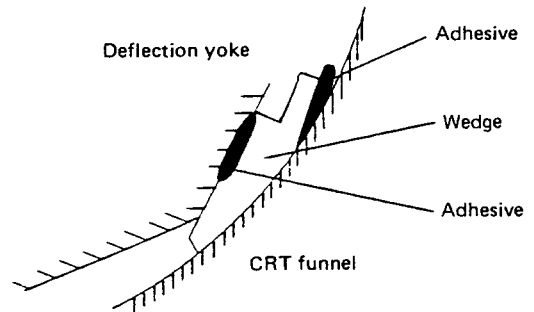

Fig. 26
- (11) Apply a suitable adhesive (GE RTV162 or equivalent) between the permanent wedge and CRT Funnel as shown in the Fig. 26 below.
- (12) Remove the "Temporary" wedges. With special attention to maintain the exact yoke position, push the three permanent wedges into stabilize the yoke.